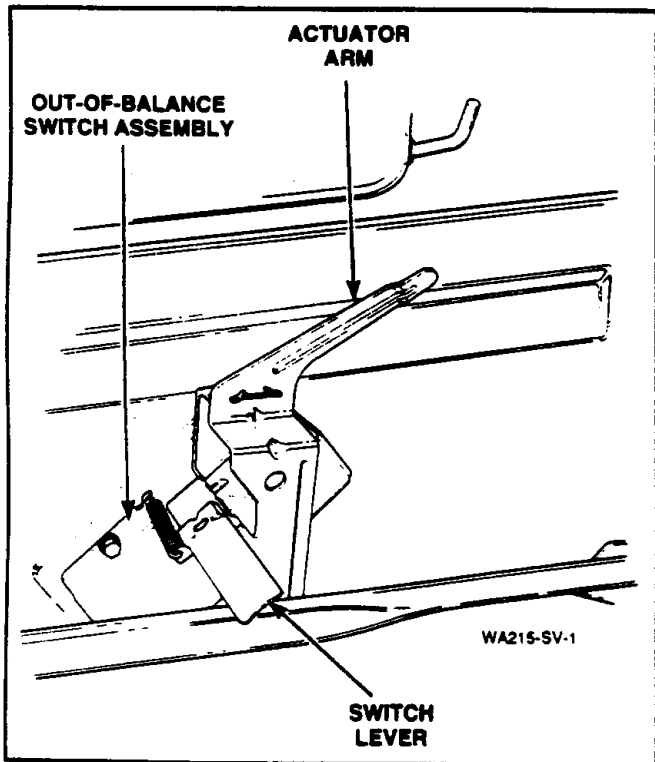

Figure 72
- Check for bent actuator arm or lever, *Figure 72*.